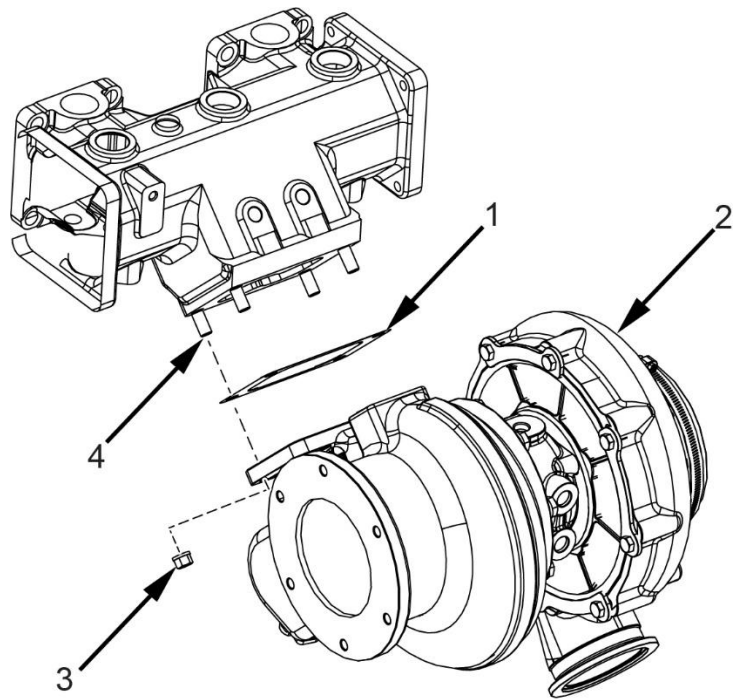

Figure 20. Turbocharger Assembly
16. Remove the four nuts (Figure 20, Item 3) and then carefully remove the turbocharger (Figure 20, Item 2).
17. Remove the gasket (Figure 20, Item 1).
2. Place a new gasket (Figure 20, Item 1) onto the turbocharger.
- All gaskets (Figure 20, Item 1) should be installed with the round edges facing up.
3. Insert the turbo (Figure 20, Item 2) onto the four studs (Figure 20, Item 4) and torque the nuts (Figure 20, Item 3).